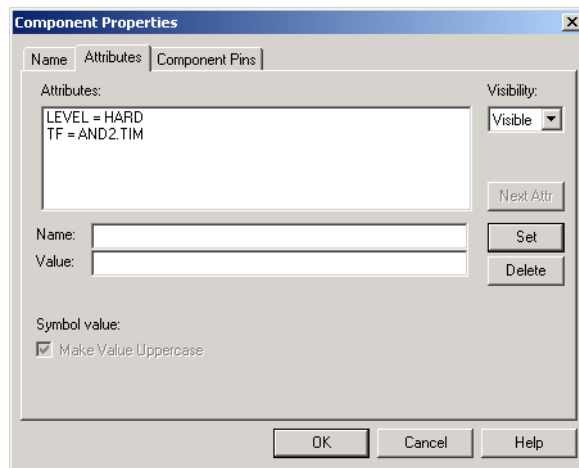

Figure 5-23. Component Properties Dialog Box
1. Double-click the object you want to add the attribute to. The Properties dialog box appears, as shown in Figure 5-23.